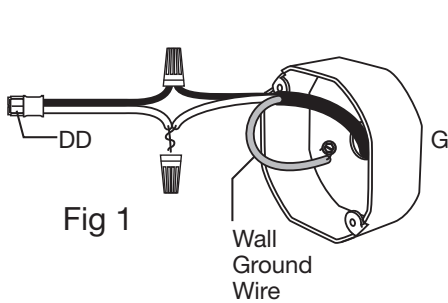

Fig 1
2. Remove Mounting Plate (B) from Light Fixture (A) by removing pre-installed Mounting Plate Screws (AA).
3. Wire Capstone Quick Connector (DD) to Electrical Box (G) using Wire Nuts (CC) (white wire to white wire / black wire to black wire) and attach Wall Ground Wire to the Electrical Box (Fig 1).